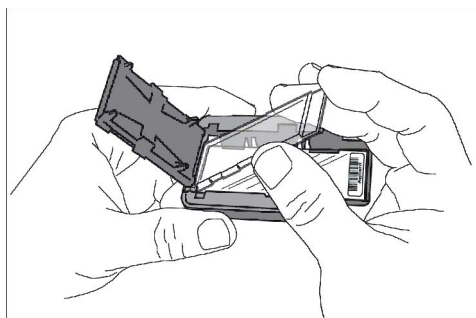

Figure 15. Inserting the ozone-barrier slide cover
- In environments in which the ozone level exceeds 5 ppb, immediately put the slides with Agilent barcode facing up in a slide holder. Make sure that the slide is not caught up on any corner. Put an ozone-barrier slide cover on top of the array as shown in **Figure 15**. Refer to the *Agilent Ozone-Barrier Slide Cover User Guide* (publication G2505-90550), included with the slide cover, for more information.